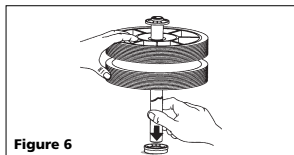

Figure 6
5. Attach opposite ring in the same manner (Figure 6).